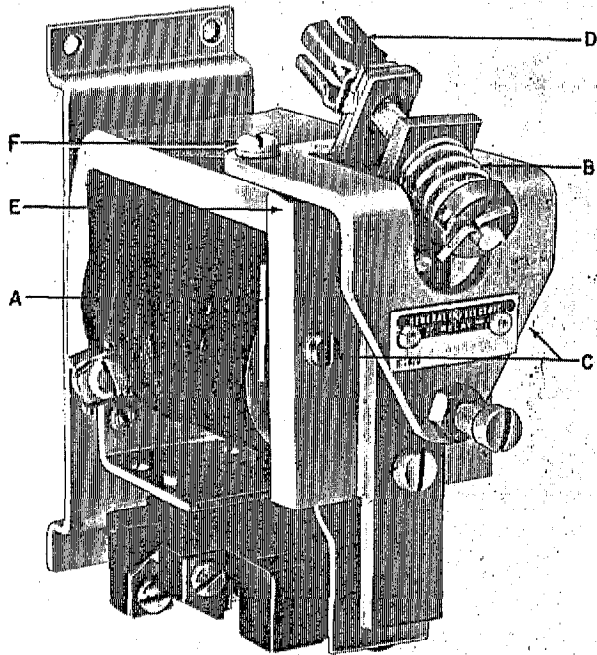
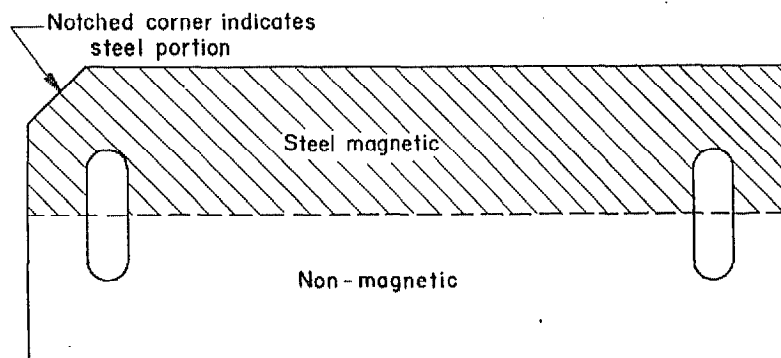

Fig. 2. IC2820-C100C relay
Fig. 3. Bimetal sliding shim used on IC2820-C100C relay
The relay should be mounted with the armature knife edge at the top and the contact tips in the down position, Fig. 2. The knife edge (E) of the armature should be kept free from dust, as any accumulation will affect the timing.
The adjustment of time-delay dropout should be made by means of the sliding bimetal shim (A), Fig. 2. The bimetal shim is composed of a steel magnetic portion and a nonmagnetic portion, Fig. 3.
The bimetal sliding shim should always be assembled to the relay armature with the steel magnetic portion in the up position or nearest the armature knife edge. The notched corner of the shim, Fig. 3, indicates the steel portion. To shift the position of the shim, loosen the two screws (C), Fig. 2, in the armature of the relay and slide the shim either up or down depending upon the change in time required,
The spring pressure varies with voltages and times required. The adjustment of the tension spring (B), Fig. 2, is made by adjusting the nut (D), Fig. 2. Discretion must be used in adjusting the spring. The magnitude of the spring tension must be such as to hold the armature positively against the back-stop but not of such magnitude as to prevent the armature from closing when the relay coil is energized at its maximum operating temperature.
To replace coils, first remove the armature assembly as a unit by removing the two screws (F), Fig. 2. This eliminates the possibility of disturbing any adjustments. Then remove coil retainer. After replacing the coil and armature assembly, perform the necessary checks under adjustments.
To replace a shim, remove screws (C), Fig. 2, which will allow removal of the shim clamp located under the armature. It should be noted that a 2-mil stationary shim is mounted between the sliding shim and the armature. Replace the shim being careful to mount it with the beveled corner towards the armature knife edge and to replace the 2-mil shim. Position the tapped holes in the shim clamp with the slots in the shim and the through holes in the armature. Insert screws (C) and tighten to engage the shim clamp. Readjust the shim to obtain proper timing. Then tighten screws securely to maintain the shim setting.